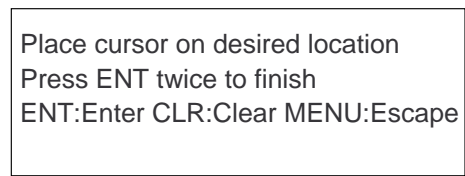

Figure 5-3
- 2) Press [1] to select Cursor. The display shown in Figure 5-3 appears.